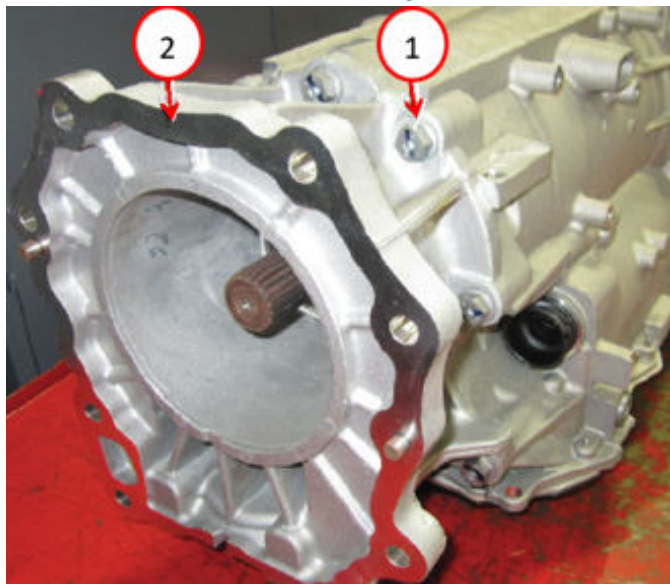

Fig. 53
79. For 2WD vehicles, remove old seal from the output flange and replace with new output flange O-ring Fig. 53.